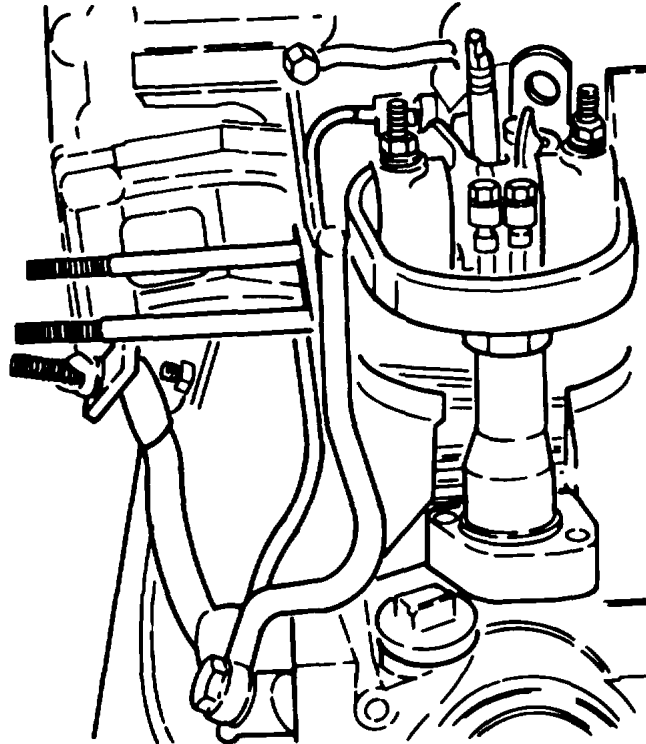

Figure A-65. Fuel Leak-off
w. **Fuel Leak-Off and Supply Line.** Install the banjo bolts on the fuel leak-off/supply line at the fuel tank and fuel injector. Remember to replace both copper washers on each banjo bolt. Route the fuel line as shown. (Figure A-65)